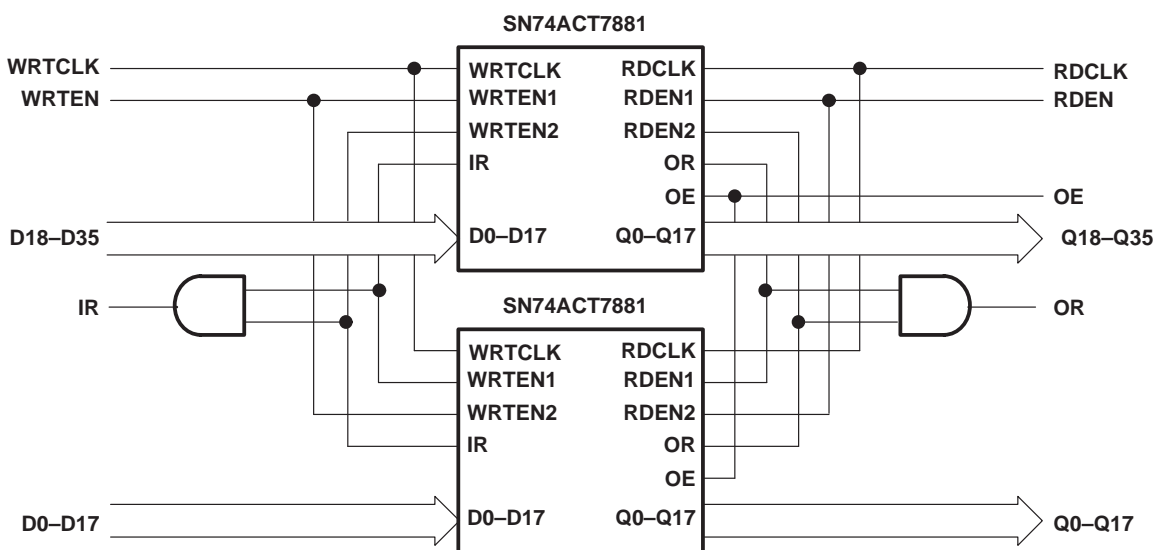

Figure 8. Word-Width Expansion: 1024 × 36 Bits
The SN74ACT7881 is expandable in both word width and word depth. Word-depth expansion is accomplished by connecting the devices in series such that data flows through each device in the chain. Figure 8 shows two SN74ACT7881 devices configured for word-depth expansion. The common clock between the devices can be tied to either the write clock (WRTCLK) of the first device or the read clock (RDCLK) of the last device. The output-ready (OR) flag of the previous device and the input-ready (IR) flag of the next device maintain data flow to the last device in the chain whenever space is available.